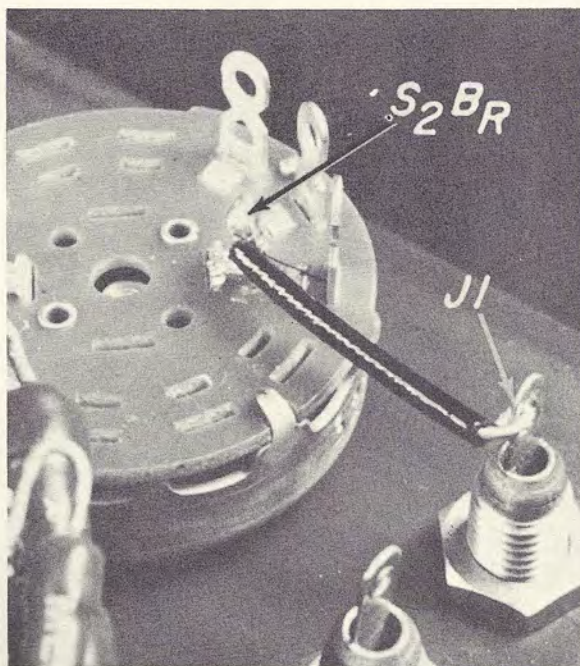

Fig. 3-12
Step 2. Solder one end to S_2B_R and connect the other end to the black pin jack J_1 , as shown in Fig. 3-12.